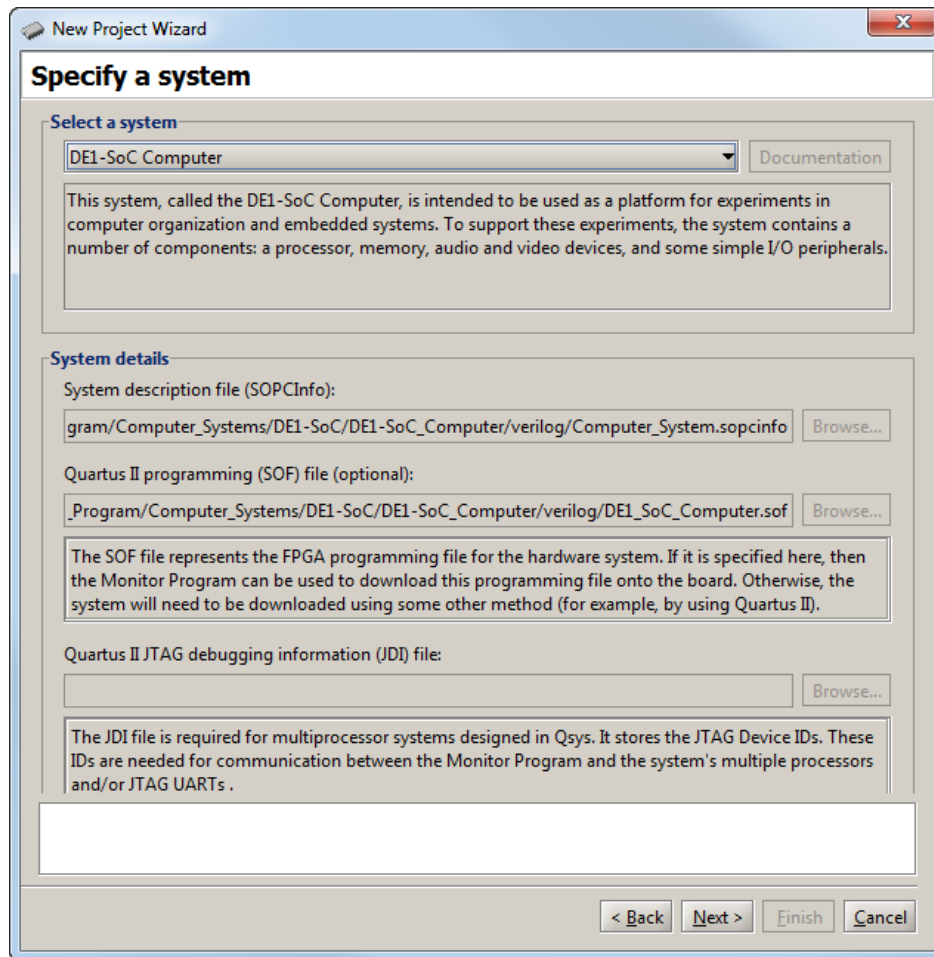
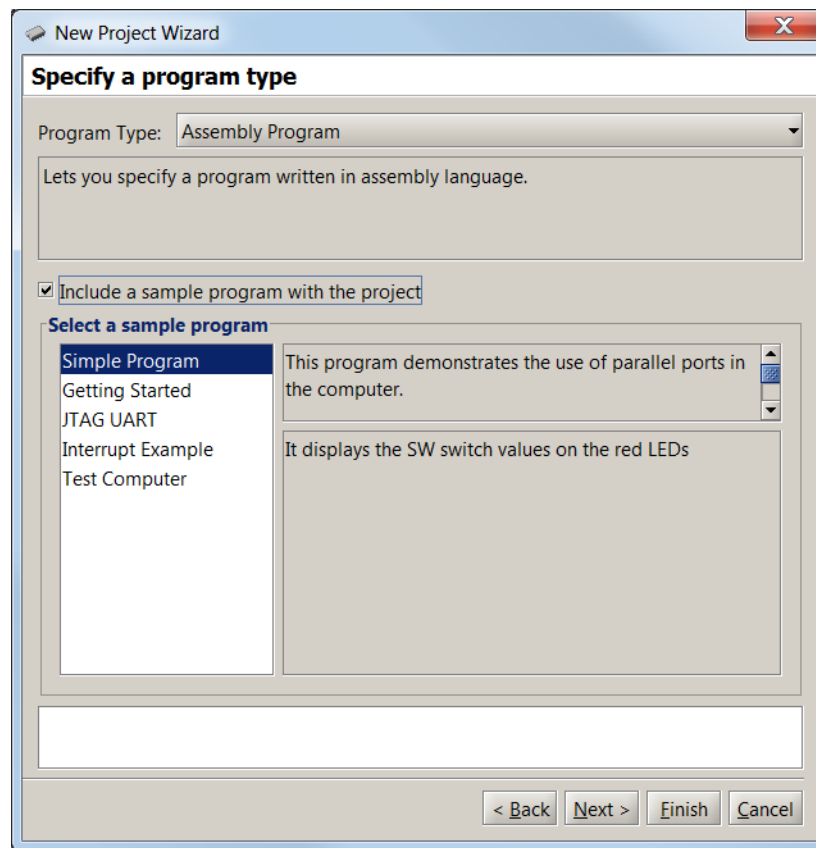

Figure 6. Specifying the desired hardware system.
Figure 7. Selecting a program type and sample program.
2. Click **Next** to advance to the window shown in Figure 6, which is used to specify a particular system. A hardware system to be implemented on the FPGA board is usually generated by using Altera's Qsys tool. Information about creating systems using Qsys can be found in the *Introduction to the Altera Qsys System Integration Tool* tutorial, which is available in the University Program section of Altera's website.
In the top right corner of Figure 6 there is a **Documentation** button. Clicking on this button opens a user guide that provides all information needed for developing Nios II programs for the DE1-SoC Computer, such as the memory map for addressing all of the I/O devices in the system. This file can also be accessed at a later time by using the command **Settings > System Settings** and then clicking on the **Documentation** button.
3. Click Next to advance to the screen in Figure 7, which is used to specify the program source files that are associated with the project. The **Program Type** drop-down list can be used to select one of the following program types:
For our example, set the program type to **Assembly Program**. When the DE1-SoC computer has been selected for the project, as we did in Figure 6, it is possible to click on the selection **Include a sample program with the project**. As illustrated in Figure 7, several sample assembly-language programs are available for this prebuilt computer. For our tutorial select the program named *Simple Program*. This is a very simple program which continuously reads the state of the slider switches on the DE1-Soc board and displays their state on the red LEDs. The source code for the program is: